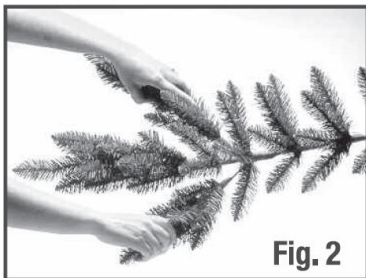

Fig. 2
2. Each Branch tip must be shaped to it's proper position to give the tree a natural look. This is done by gently grasping the left and right wing tips and spreading them out away from the center tip (Figure 2).